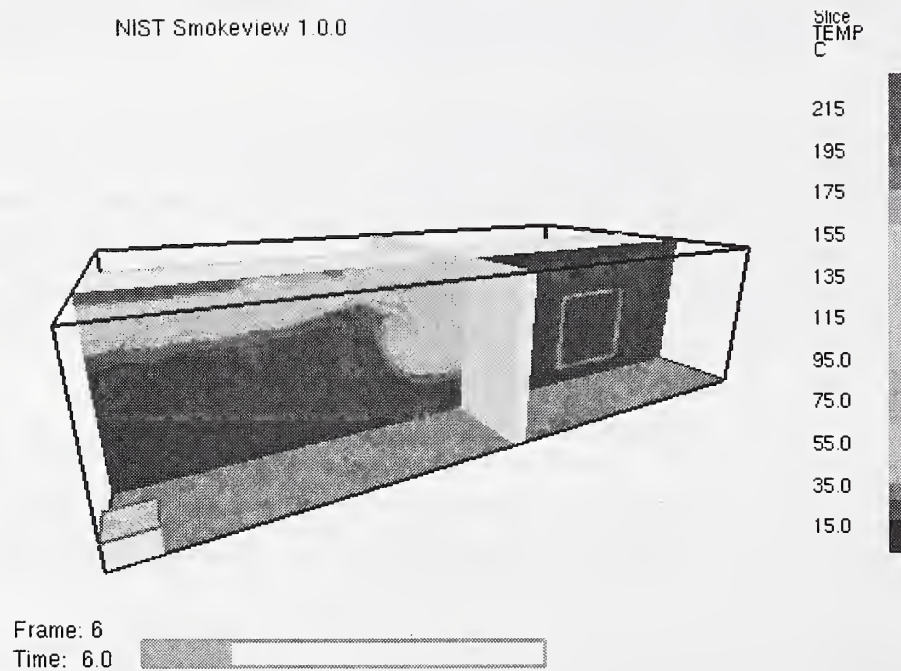

Figure 3: Slice File Example
**Slice files** Slice files contain data recorded within a rectangular array of grid points at each recorded time step. Continuously shaded contours are drawn for simulation quantities such as temperature, gas velocity and heat release rate. All or part of a plane is selected when setting up the FDS input data file. Figure 3 shows a snapshot of a slice file where the slice is colored according to gas temperature. Slice files have file names with extension `.sf`. Slice files are displayed by selecting the desired slice file from the `Load/Unload` menu.